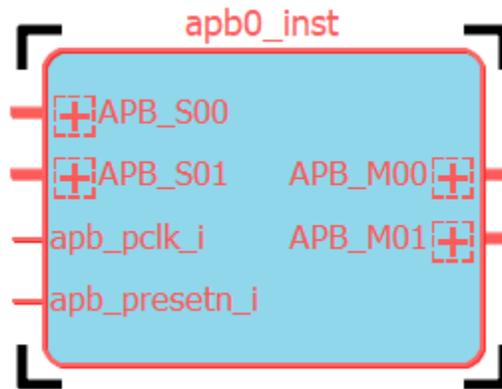

Figure 2.46. Select Module
- a. Select the desired module block. The block is highlighted in red with black corners (Figure 2.46).